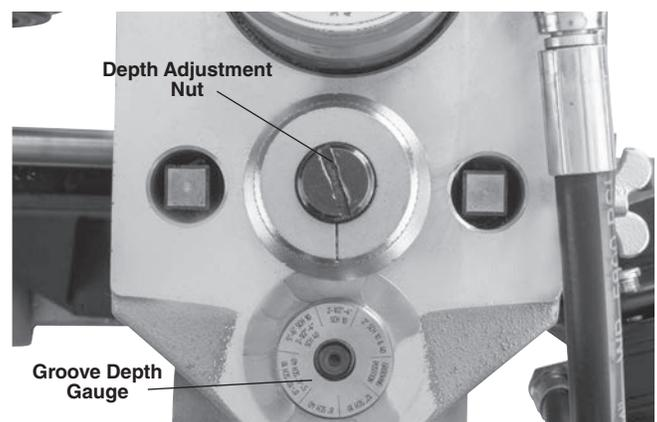

Figure 14A – Place Correct Step of Gauge Under Adjusting Head
3. Adjust the groove depth gauge so that the correct step of the gauge is under the head of the adjusting screw (Figure 14A). The groove depth gauge is designed for use with pipe. See "Setting The Groove Diameter For Copper Tubing" for use with copper tube.